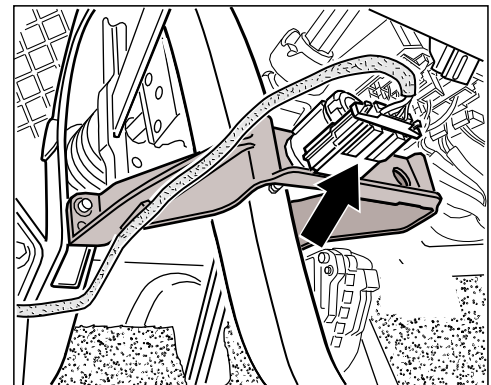

Figure 1
- 3 Replace brake light switch (⇒ *Figure 1 -Arrow-*), ⇒ *Workshop Manual '943619 Removing and installing brake light switch'*.